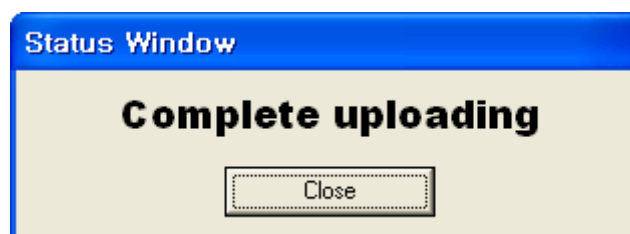

Figure 8. Complete Uploading
⑥ When uploading is completed, a message box with “Complete Uploading” will be displayed as shown in Figure 8.